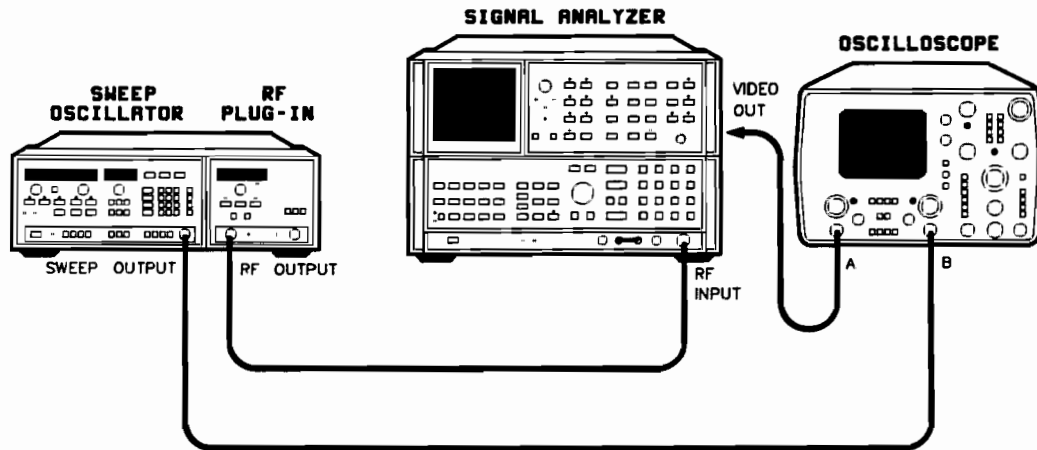

Figure 5-24. Band Overlap Adjustment Test Setup
1. Connect the equipment as shown in Figure 5-24. Allow the equipment to warm up for 1 hour